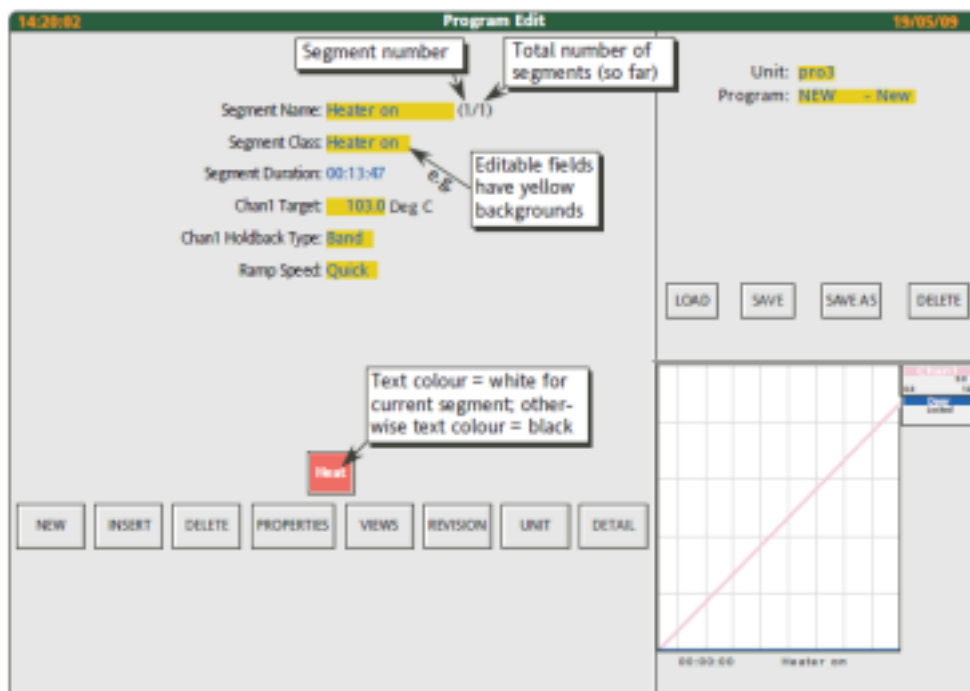

Figure 104 First Segment.
4. The Heat segment pushbutton appears, together with its editable parameters and a preview (Figure 104). The Segment duration is displayed here even though it is not editable except by changing the 'Chan1 Target' value and the selected Ramp speed.